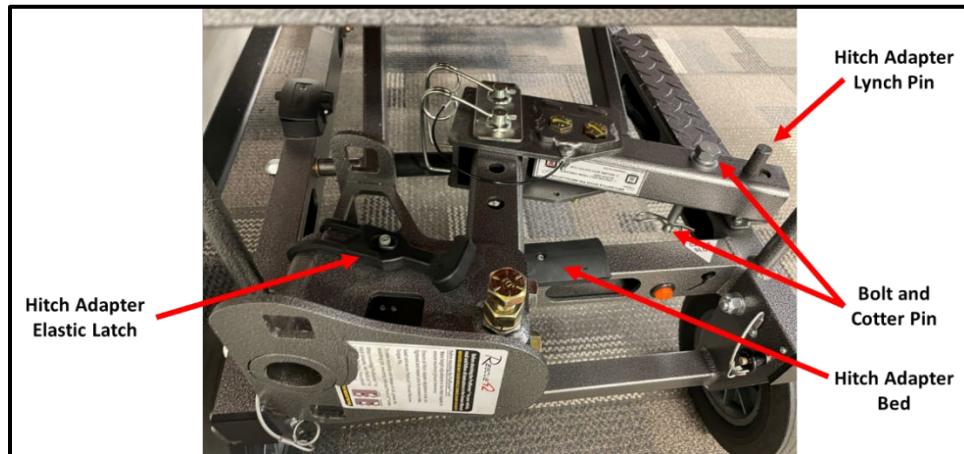

Figure 2. Hitch Adaptor
1. Examine the hitch adapter assembly and verify that it is properly secured to the hitch adaptor bed. Refer to Figure 2. Confirm that the installation meets each of the following requirements.